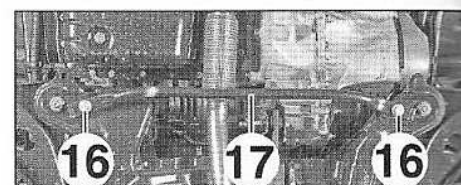

FIG.9
- les vis (16) (Fig.9),
- la barre anti-rapprochement (17),